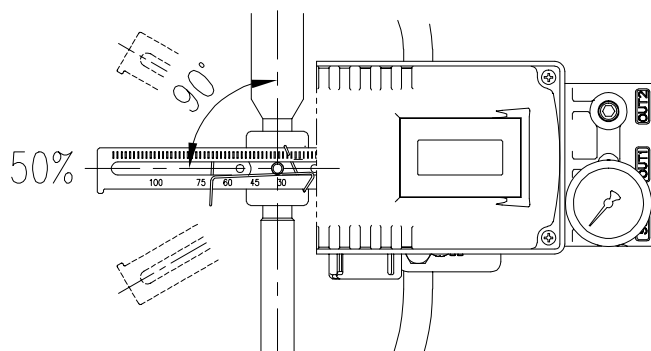

Fig. 3-11: YT-3300L / 3350L Feedback lever and valve stem
- 7) Check if feedback lever is vertical to the valve stem at 50 % of the valve stroke. If it is not vertical, adjust the adapter holder on the actuator's stem to make vertical – **DO NOT TIGHTEN THE ADAPTER HOLDER COMPLETELY**. Improper installation may cause poor linearity. Refer to Fig 3-11.